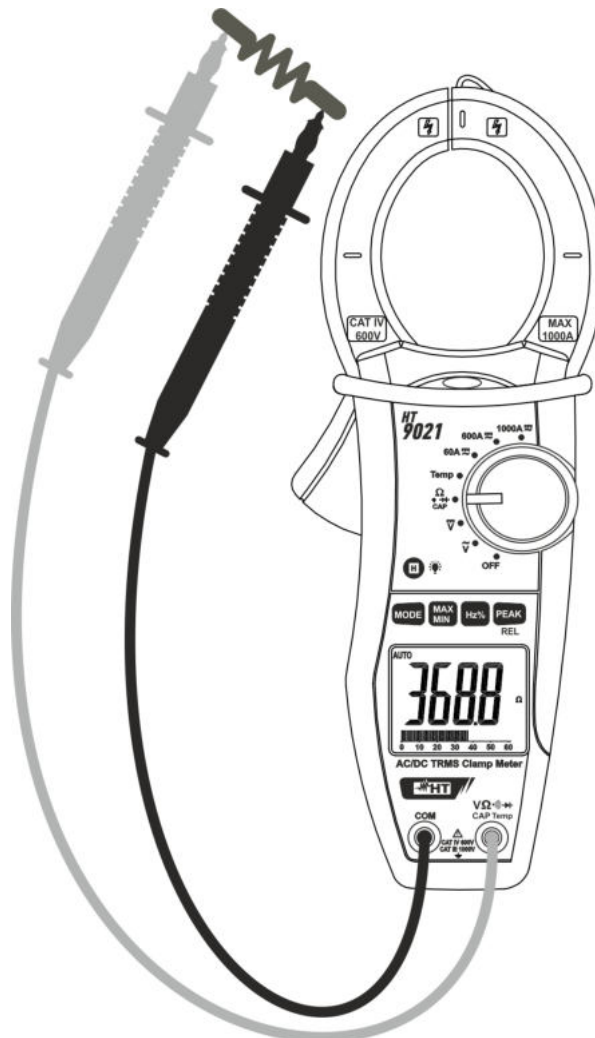

Fig. 5: Taking Resistance measurement
2. Insert the red test lead plug into **V $\Omega$ -CAP Temp** jack and the black test lead plug into **COM** jack (Fig. 5)